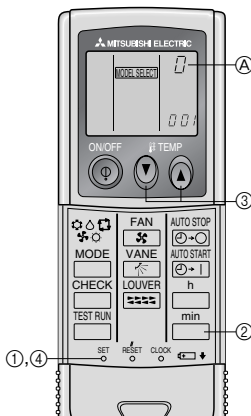

Fig. 6-4
6.2.4. Assigning a remote controller to each unit (Fig. 6-4)